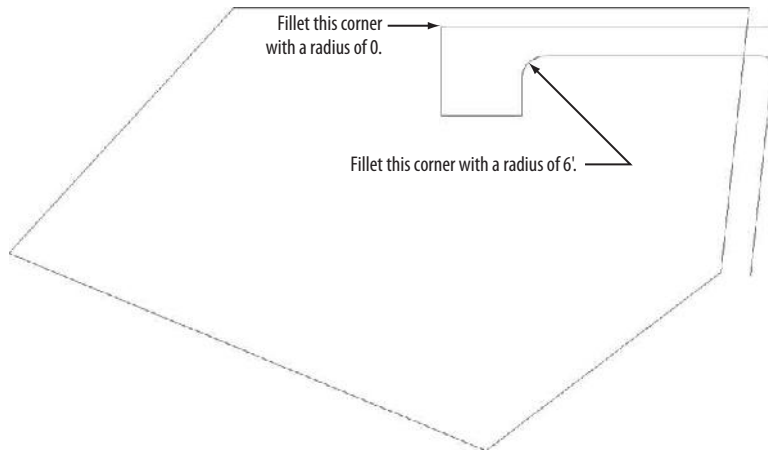

FIGURE 13.9: Completing the driveway
7. Fillet the intersection of the upper driveway line and the left vertical line with a radius of 0, and the intersection of the lower driveway line and the right vertical line with a radius of 6' (2 m), as shown in Figure 13.9.